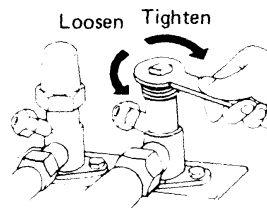

Fig. 34
- d) After 45 seconds, fasten the flare nut (A) of wide tube tightly as it was. Fig. 34